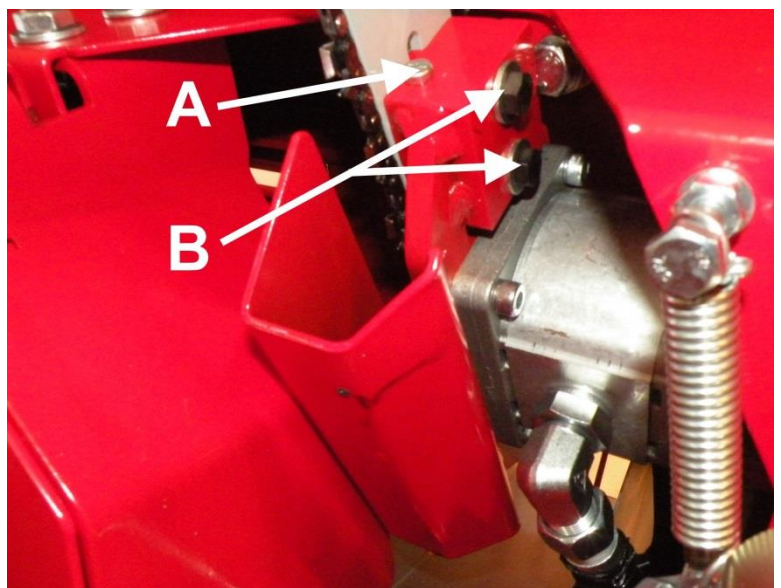

Figure 26.
3. Loosen saw bar bolts B in Figure 26.
4. Fully loosen adjustment screw A for saw chain tension (Figure 26).
8. Use adjustment screw A to tighten the chain and tighten fastening bolts B (Figure 26).